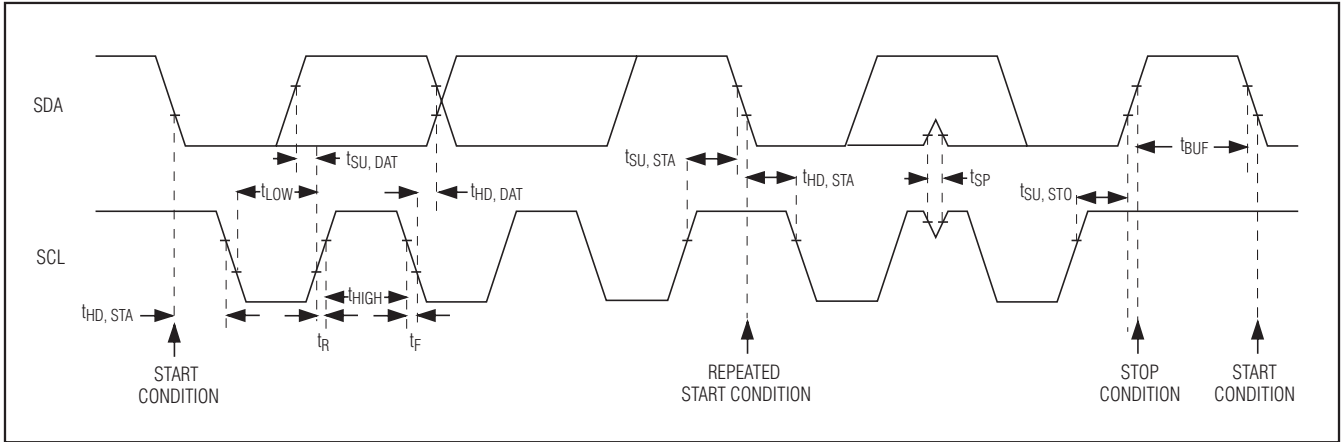

Figure 6. I²C Serial-Interface Timing Diagram
The MAX9670/MAX9671 feature an I²C/SMBus™-compatible, 2-wire serial interface consisting of a serial-data line (SDA) and a serial-clock line (SCL). SDA and SCL facilitate communication between the MAX9670/MAX9671 and the master at clock rates up to 400kHz. Figure 6 shows the 2-wire interface timing diagram. The master generates SCL and initiates data transfer on the bus. A master device writes data to the MAX9670/MAX9671 by transmitting a START (S) condition, the proper slave address with the R/W bit set to 0, followed by the register address and then the data word. Each transmit sequence is framed by a START and a STOP (P) condition. Each word transmitted to the MAX9670/MAX9671 is 8 bits long and is followed by an acknowledge clock pulse. A master reads from the MAX9670/MAX9671 by transmitting the slave address with the R/W bit set to 1, followed by a series of SCL pulses. The MAX9670/MAX9671 transmit data on SDA in sync with the master-generated SCL pulses. The master acknowledges receipt of each byte of data. Each read sequence is framed by a START or